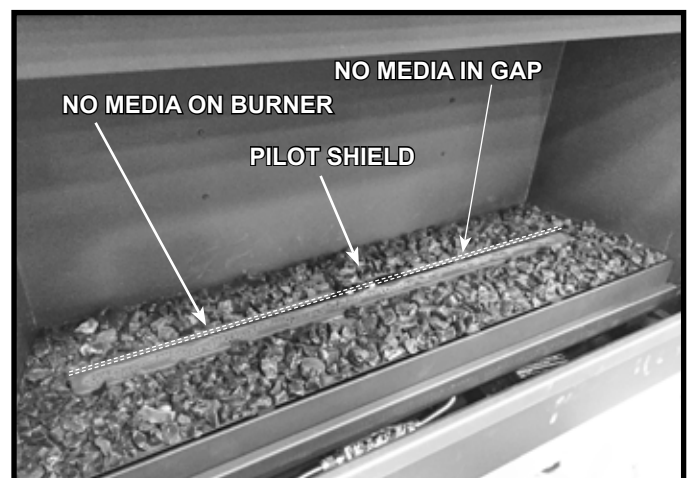

Figure 11.1 Media Placement
1. Place an even layer of glass media around the basepan. Do not place glass media in the gap behind the burner or on the top surface of the burner. See Figure 11.1. This may cause lighting issues, undesirable burner flame, or delayed ignition.
2. The glass assembly has two upper spring latches and two lower spring latches. See Figure 11.1. Locate the two spring latches that are on the upper left and right of the fireplace.